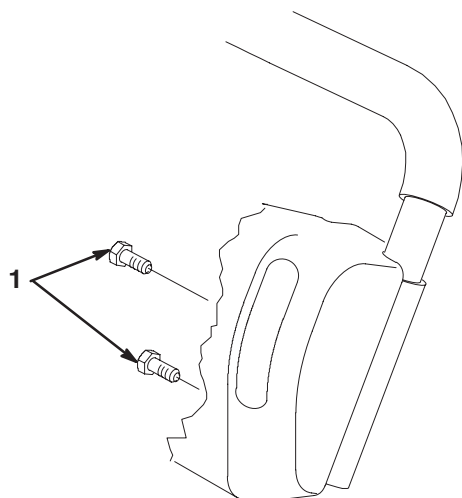

Figure 1
1. Remove (2) bottom, screws securing left console bracket to handle bar (Fig. 1).